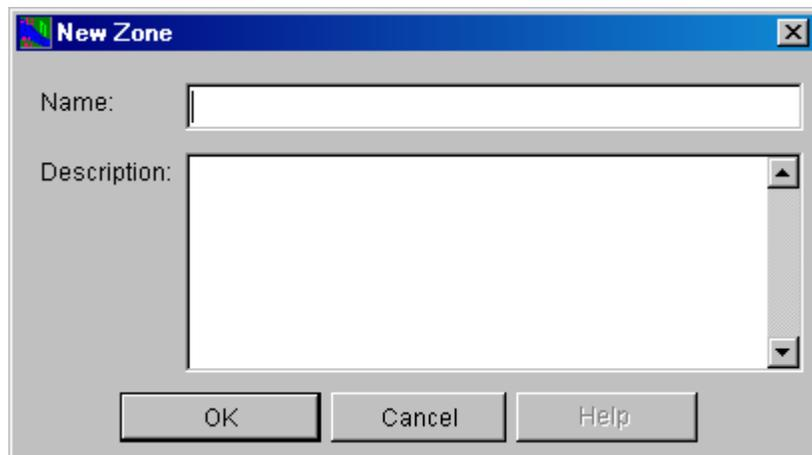

Figure 12.18 New Storage Zone Dialog Box
1. Select **New** from the **Zones** menu of the **Reservoir System Editor**. The **New Storage Zone** dialog box will open (Figure 12.18)